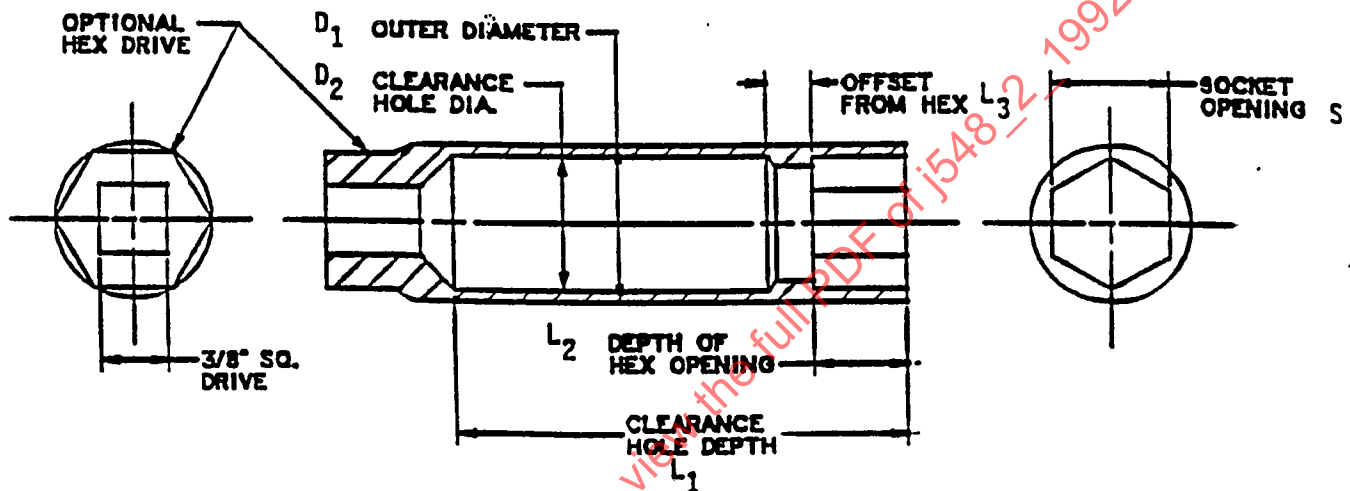

FIGURE 2—OPTIONAL SPARK PLUG INSTALLATION DESIGN
- 4. Recommended Optional Design for 15.73/15.95 Hex Size Spark Plugs**—The following option is recommended to maximize clearance between the side wall of the socket and the spark plug insulator. This is to reduce the probability of damaging the spark plug insulator by side loading. A suitable material and wall thickness must be used to provide sufficient wall strength for service requirements. As stated in the standard socket description previously, a bushing or other suitable device should be used to retain and centralize the spark plug in the socket. However, the device should be designed to allow the insulator to move off center without receiving a significant side loading. See Figure 2 and Table 2.